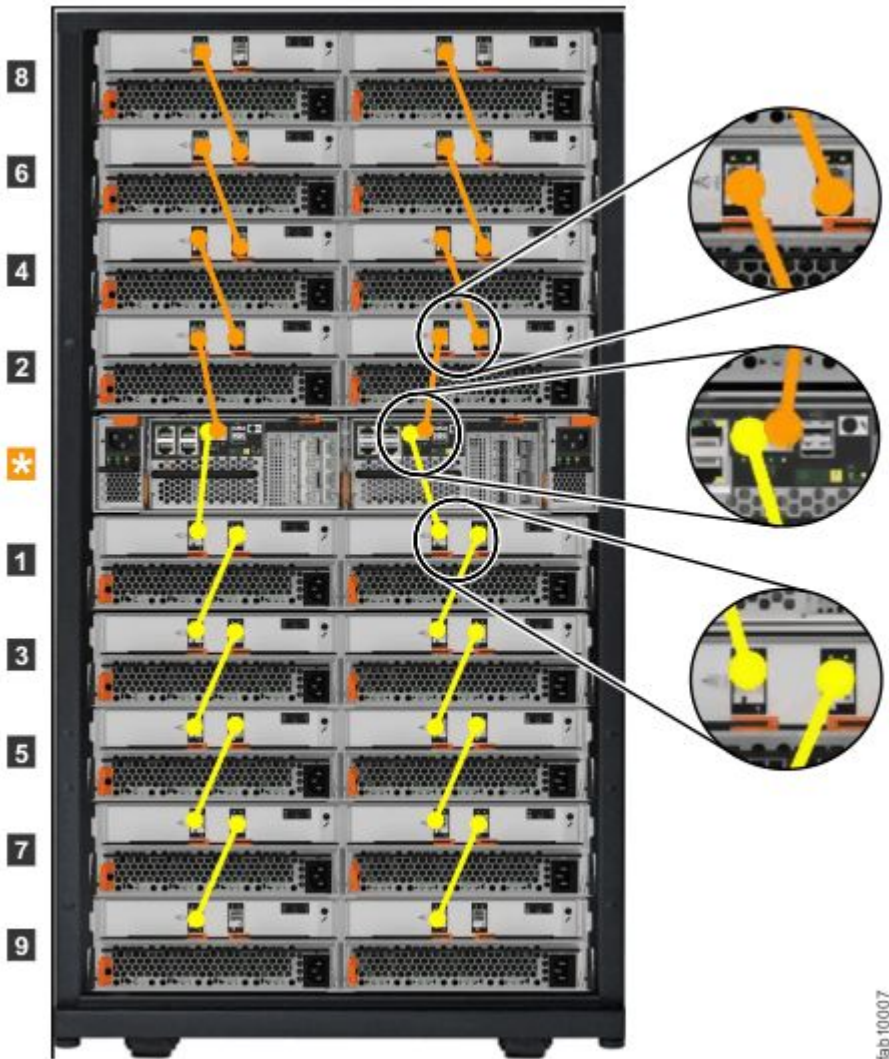

Figure 22. Connecting the SAS cables
- No more than ten expansion enclosures can be chained to SAS port 1 of a node canister. The expansion enclosures in this chain should be installed below the control enclosure (as shown in Figure 22 “Connecting the SAS cables” on page 24).
- No more than ten expansion enclosures can be chained to SAS port 2 of a node canister. The expansion enclosures in this chain should be installed above the control enclosure (as shown in Figure 22 “Connecting the SAS cables” on page 24).